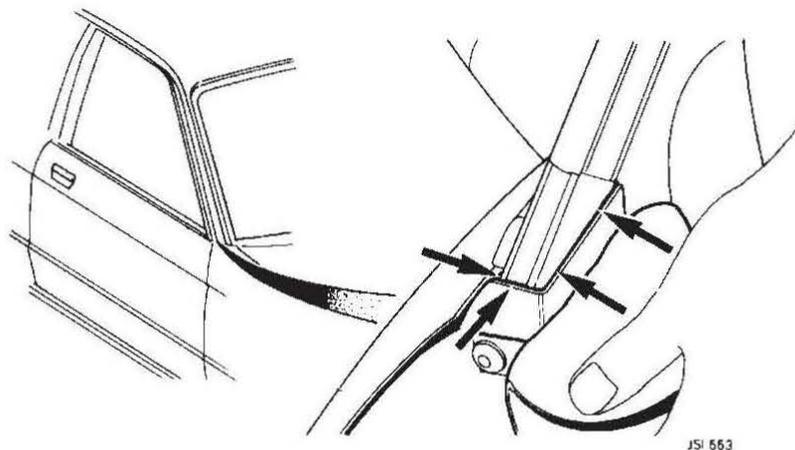

FIG.10
- 1 Remove the rubber finisher (Fig 10) to expose the door to window frame junction.
- 2 Apply sealant 'A' as indicated in Fig 10. Remove any surplus sealant.